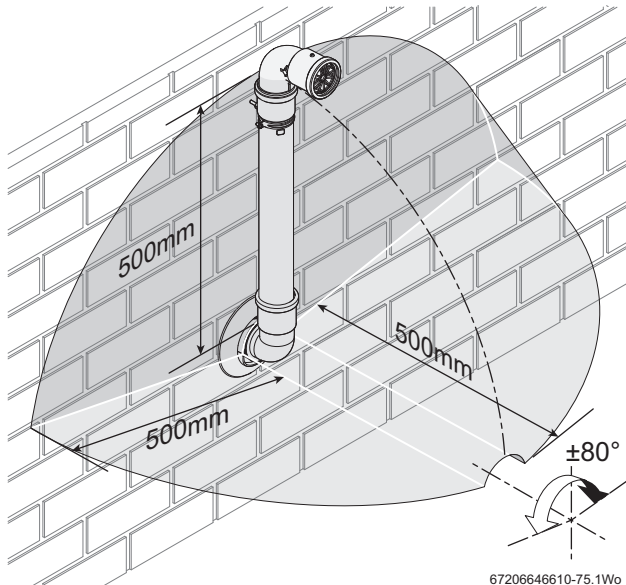

Fig. 17 Terminal exclusion zone
The minimum plume length should be calculated to ensure that the air inlet and exhaust have a minimum distance of 500mm between them (→ figure 17).
- Do not terminate the plume management inside the shaded area shown in figure 17